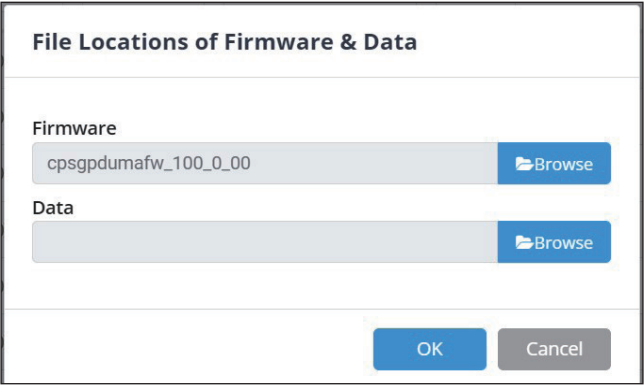

Figure 3
- 6. Select the Firmware file and click **OK** to implement firmware upgrade, as shown in Figure 3.